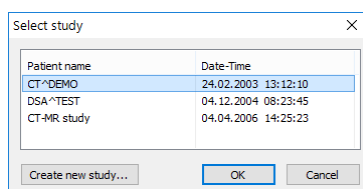

Figure 427 – Select study dialog
1. Select the existing study for the insertion of the new series from the studies list in the **Select study** dialog (see Figure 427).